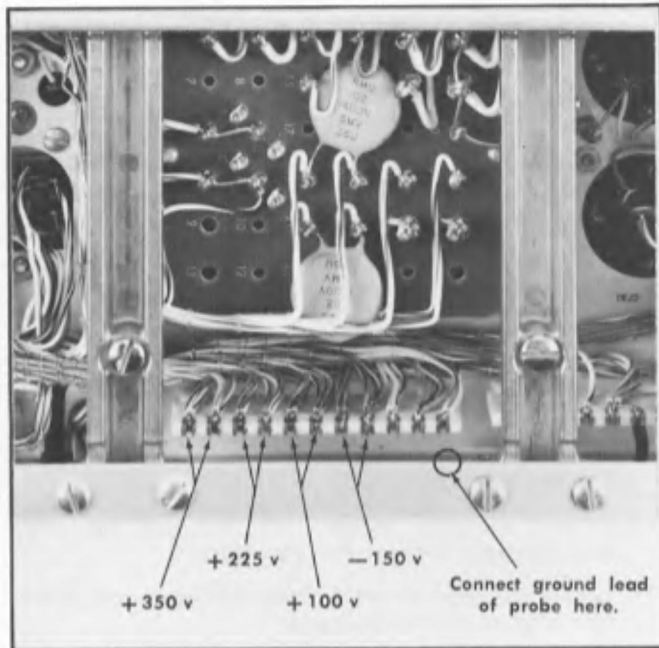

Fig. 5-1. Low-voltage power-supply test point locations (bottom of instrument near the power transformer).
- Using the VOM, check the resistance at the regulated bus of each power-supply lead to ground at the test points shown in Fig. 5-1. The values of resistance should be approximately as indicated in Table 5-1, once the capacitors are charged by the VOM internal battery.
- Check the voltage accuracy of each power supply output using the VOM (item 4) according to the information given in Table 5-3. The location of the test points is shown in Fig. 5-1.
- a. Monitor the regulated output of the —150-volt supply with the VOM. The test point location is shown in Fig. 5-1.
- b. Connect a 1X probe from a test oscilloscope (item 1) to the —150-volt test point and check the output ripple amplitude. The maximum ripple voltage is given in Table 5-3.
Ground loops can cause an erroneous ripple measurement. (Ripple due to ground loops is the same frequency as the line; low-voltage power supply ripple is twice the line rate.) One way to avoid ripple due to ground loops is to temporarily disconnect the chassis ground wire in the power cord by using an ungrounded 3-to-2 wire line-plug adapter. Then use a ground lead from the signal probe to make a ground connection to the oscilloscope chassis at the location shown in Fig. 5-1. The probe will then provide the only ground connection between the two instruments. The "test oscilloscope" is item 1 while the term "oscilloscope" or "instrument" refers to the oscilloscope being calibrated.